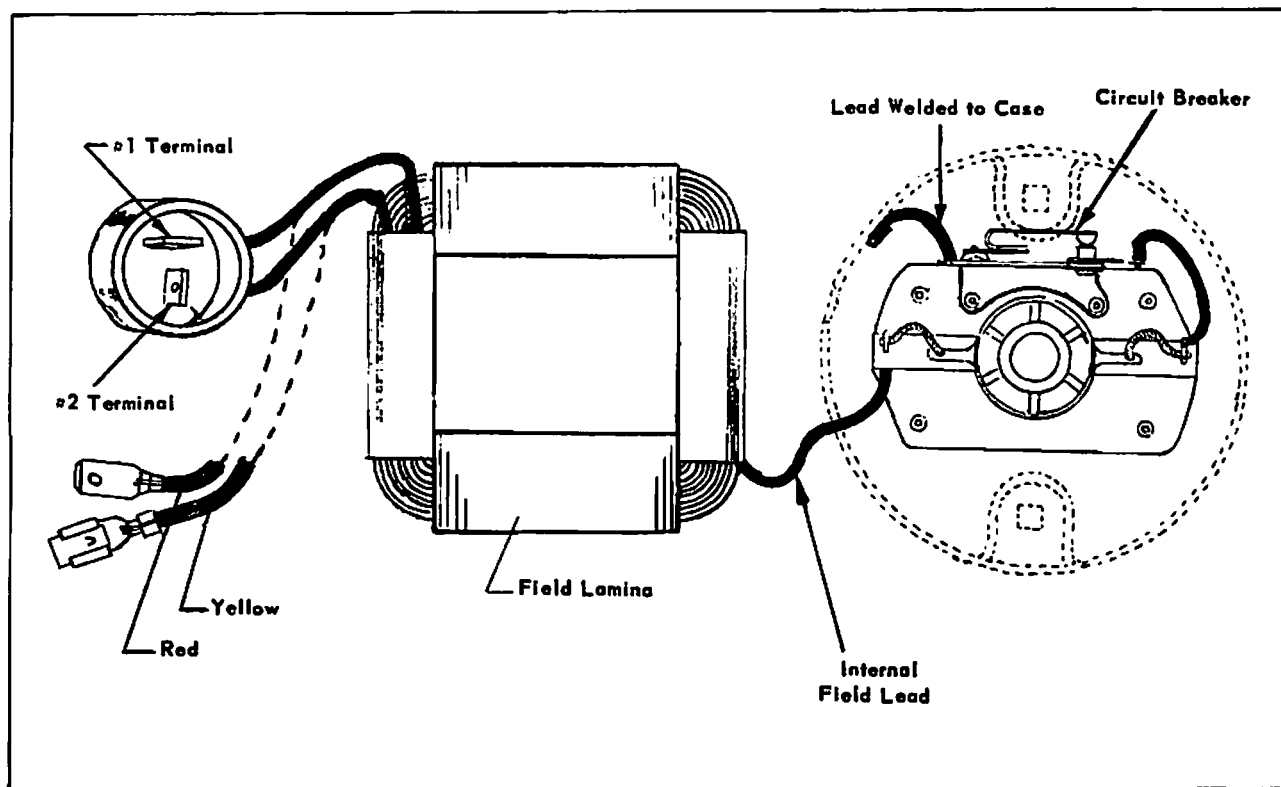

Figure 3-26
**FIELD ASSEMBLY TESTS:** Refer to Figure 3-26
5. To completely free the case assembly from the motor, simply unsolder the internal field lead which is connected to the brush holder. (Fig. 3-26.)